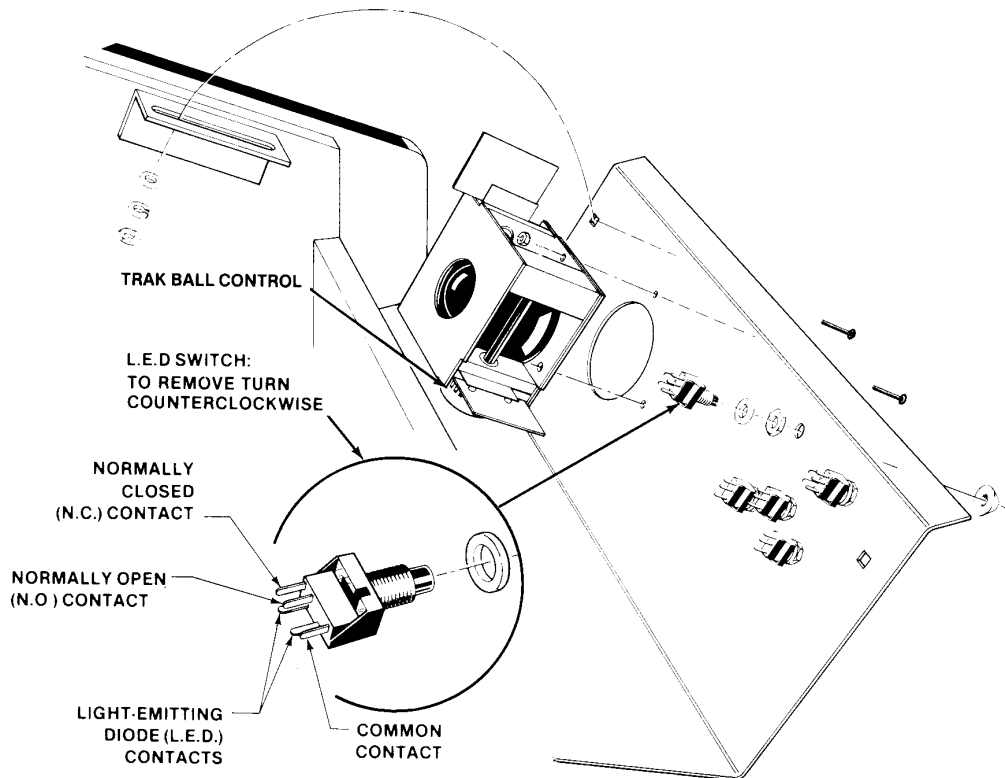

Figure 8 Opening the Control Panel
Reach through the opening and remove both sets of carriage bolts and lock nuts, located on the underside of the control panel (see Figure 8).
The light-emitting diode (LED) switches on the control panel have a very low failure rate. In case a switch should ever be suspect, first test it per the description that follows. To replace the switch, refer to Figure 8.
- Connect multimeter leads to appropriate LED switch contacts (see Figure 8 for designation of switch contacts and meter lead placement).